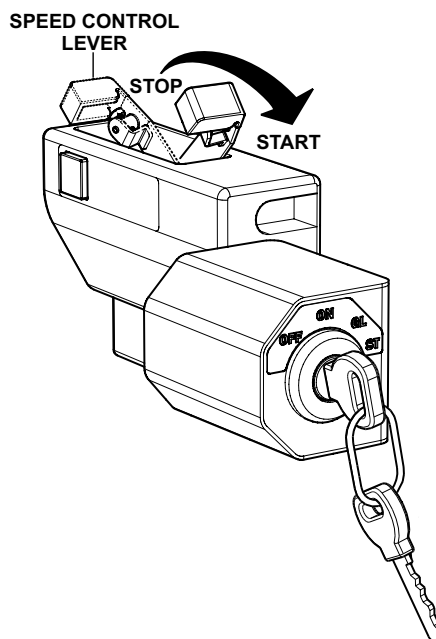

Figure 9. Engine Speed Lever (START Position)
1. Move the engine speed control lever to the **START** position (Figure 9).